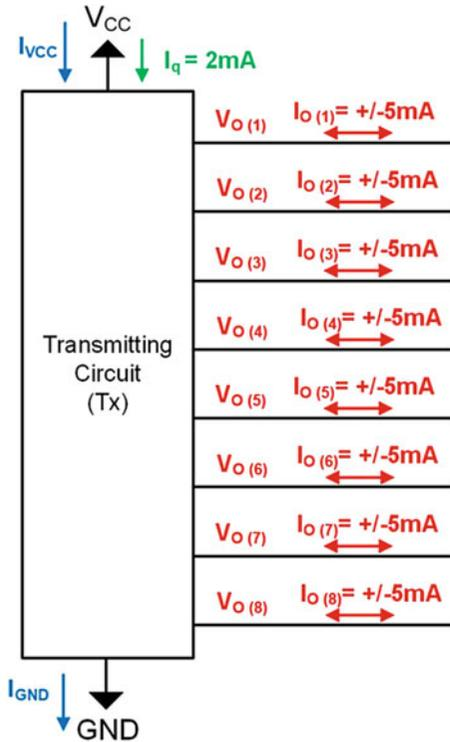

Fig. 3.38
- 3.2.13 For the driver configuration in Fig. 3.38, give the current flowing through the V_{CC} pin if all of the output pins are driving a HIGH.
- 3.2.14** For the driver configuration in Fig. 3.38, give the current flowing through the GND pin if all of the output pins are driving a HIGH.
- 3.2.15** For the driver configuration in Fig. 3.38, give the current flowing through the V_{CC} pin if all of the output pins are driving a LOW.
- 3.2.16** For the driver configuration in Fig. 3.38, give the current flowing through the GND pin if all of the output pins are driving a LOW.
- 3.2.17** For the driver configuration in Fig. 3.38, give the current flowing through the V_{CC} pin if half of the output pins are driving a HIGH and the other half are driving a LOW.
- 3.2.18** For the driver configuration in Fig. 3.38, give the current flowing through the GND pin if half of the output pins are driving a HIGH and the other half are driving a LOW.
- 3.2.19** For the driver configuration in Fig. 3.38, give the current flowing through the V_{CC} pin if six of the output pins are driving a HIGH and two are driving a LOW.
- 3.2.20** For the driver configuration in Fig. 3.38, give the current flowing through the GND pin if six of the output pins are driving a HIGH and two are driving a LOW.
- 3.2.21** For the driver configuration in Fig. 3.38, give the current flowing through the V_{CC} pin if two of the output pins are driving a HIGH and six are driving a LOW.
- 3.2.22** For the driver configuration in Fig. 3.38, give the current flowing through the GND pin if two of the output pins are driving a HIGH and six are driving a LOW.
- 3.2.23** For the driver configuration in Fig. 3.38, if the maximum current allowed through the V_{CC} pin is 25 mA, is this specification violated if all of the outputs are driving a HIGH?
- 3.2.24** For the driver configuration in Fig. 3.38, if the maximum current allowed through the V_{CC} pin is 25 mA, is this specification violated if six of the outputs are driving a HIGH and two are driving a LOW?
- 3.2.25** For the driver configuration in Fig. 3.38, if the maximum current allowed through the V_{CC} pin is 25 mA, is this specification violated if half of the outputs are driving a HIGH and half are driving a LOW?
- 3.2.26** For the driver configuration in Fig. 3.38, if the maximum current allowed through the V_{CC} pin is 25 mA, is this specification violated if two of the outputs are driving a HIGH and six are driving a LOW?
- 3.2.27** For the driver configuration in Fig. 3.38, if the maximum current allowed through the V_{CC} pin is 25 mA, is this specification violated if all of the outputs are driving a LOW?
- 3.2.28** For the driver configuration in Fig. 3.38, if the maximum current allowed through the GND pin is 25 mA, is this specification violated if all of the outputs are driving a HIGH?
- 3.2.29** For the driver configuration in Fig. 3.38, if the maximum current allowed through the GND pin is 25 mA, is this specification violated if six of the outputs are driving a HIGH and two are driving a LOW?
- 3.2.30** For the driver configuration in Fig. 3.38, if the maximum current allowed through the GND pin is 25 mA, is this specification violated if half of the outputs are driving a HIGH and half are driving a LOW?
- 3.2.31** For the driver configuration in Fig. 3.38, if the maximum current allowed through the GND pin is 25 mA, is this specification violated if two of the outputs are driving a HIGH and six are driving a LOW?
- 3.2.32** For the driver configuration in Fig. 3.38, if the maximum current allowed through the GND pin is 25 mA, is this specification violated if all of the outputs are driving a LOW?